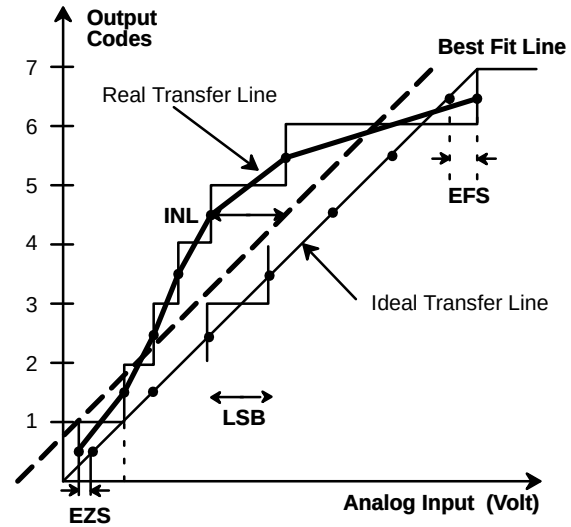

Figure 4. INL Error Calculation
- ¹ Tester measures code transitions by dithering the voltage of the analog input (V_{IN}). The difference between the measured and the ideal code width ($V_{REF}/1024$) is the DNL error (Figure 3.). The INL error is the maximum distance (in LSBs) from the best fit line to any transition voltage (Figure 4.). Accuracy is a function of the sampling rate (FS).